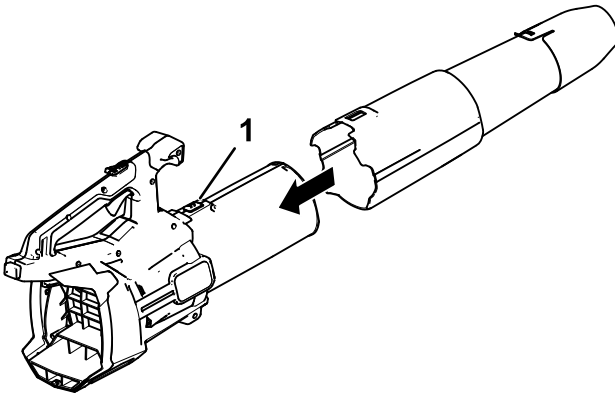

Figure 5
2. Slide the blower tube onto the blower housing. You may need to press down on the tube latch for the blower tube to lock into place (Figure 5).